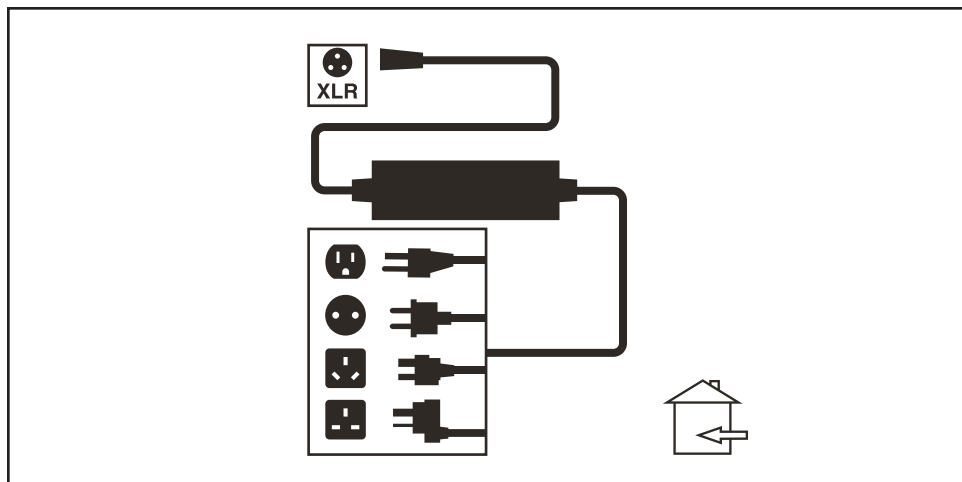

Figure 17. Battery Charger
3. Plug the off-board charger into the off-board charger/programming socket on the controller. **See figure 17.**